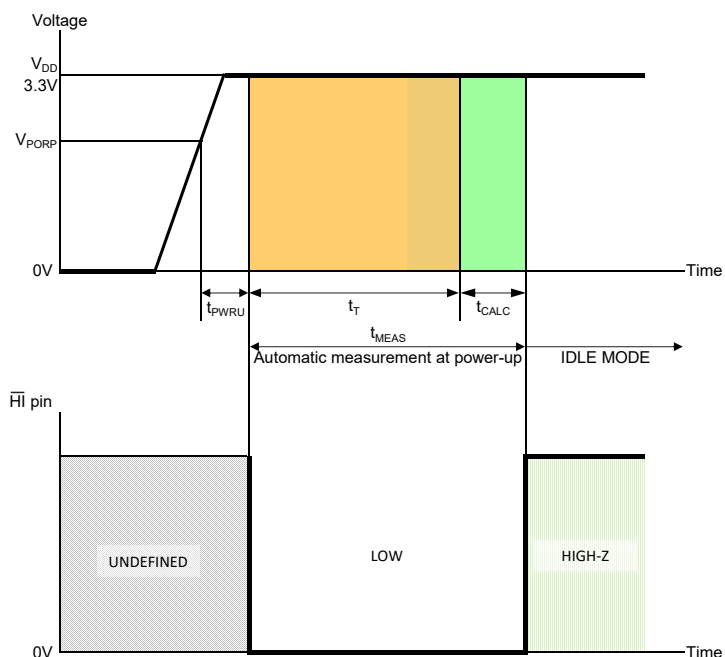

Figure 5: Sensor behaviour at power-up
- b. During power-up until the start-up measurement and calculation is finished (please refer to Figure 5 in chapter 5.1 Supply Pins.)